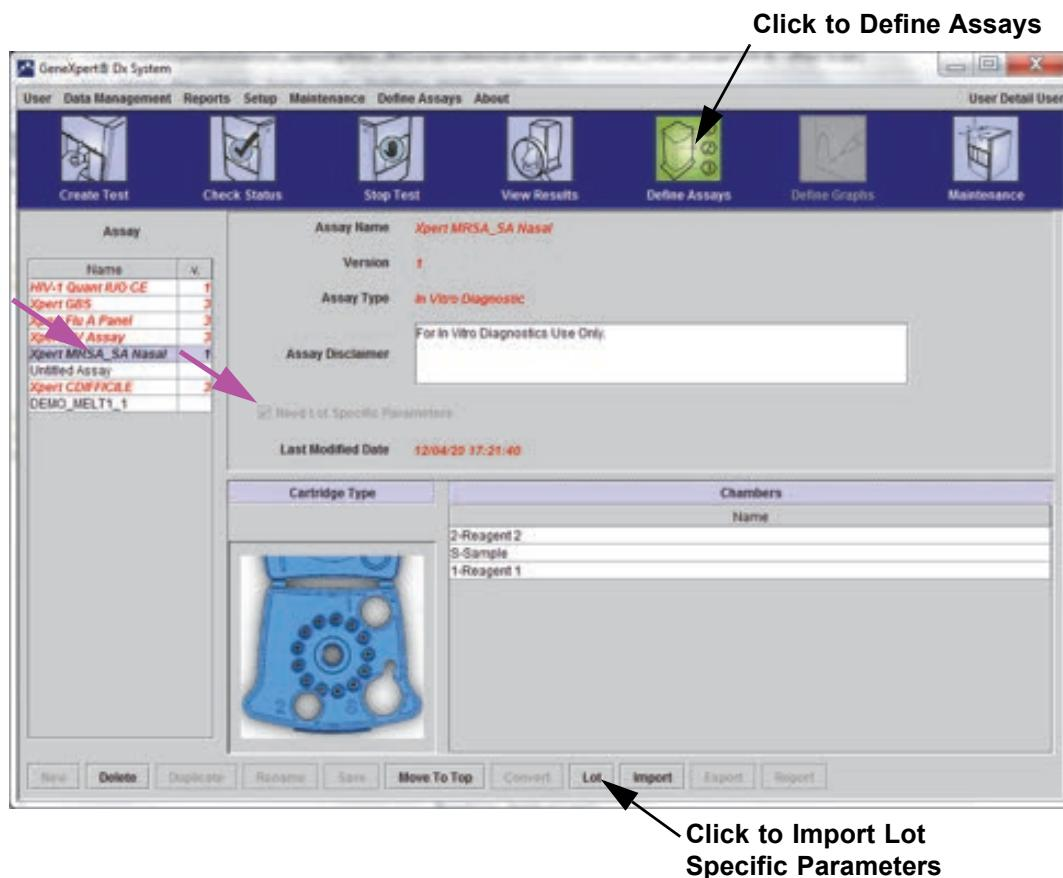
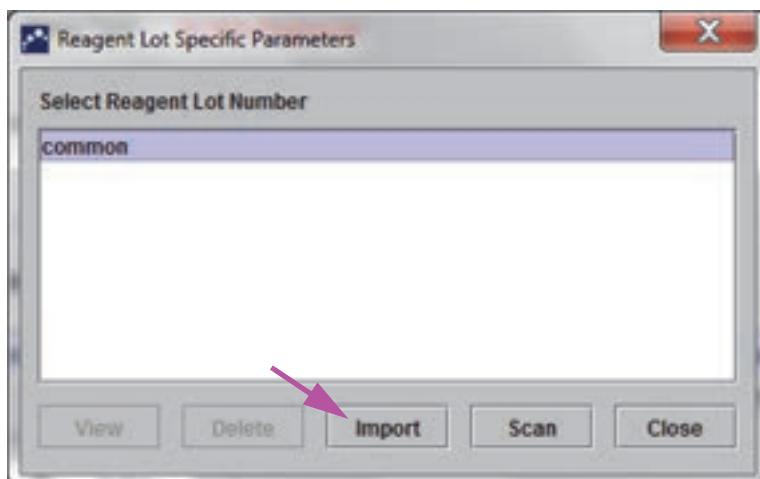

Figure 2-94. Define Assays Window, showing Need Lot Specific Parameters Box Checked
Figure 2-95. Reagent Lot Specific Parameters Dialog Box
1. In the Define Assays window (see Figure 2-94), select the assay name in the **Assay** list (on the left side of the window).
2. Click **Lot**. The Reagent Lot Specific Parameters dialog box appears. See Figure 2-95.
Figure 2-95 shows the common Reagent Lot Number before importing specific lots. If assays and/or lot specific parameters have already been imported into the system, the reagent lot numbers will be displayed.
1. In the **Define Assays** window (see Figure 2-94), click **Lot**. The Reagent Lot Specific Parameters dialog box appears. See Figure 2-95.